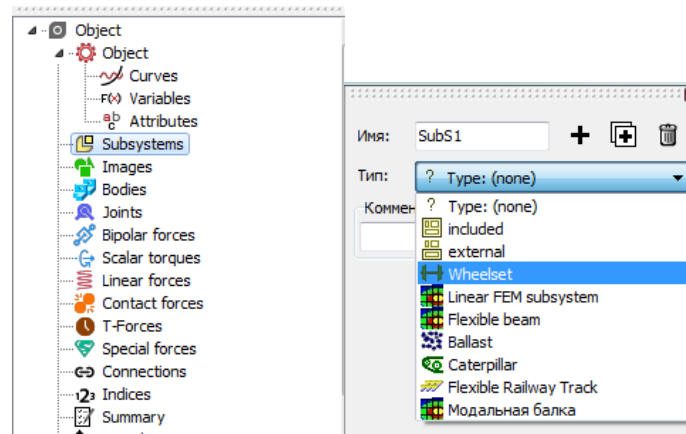
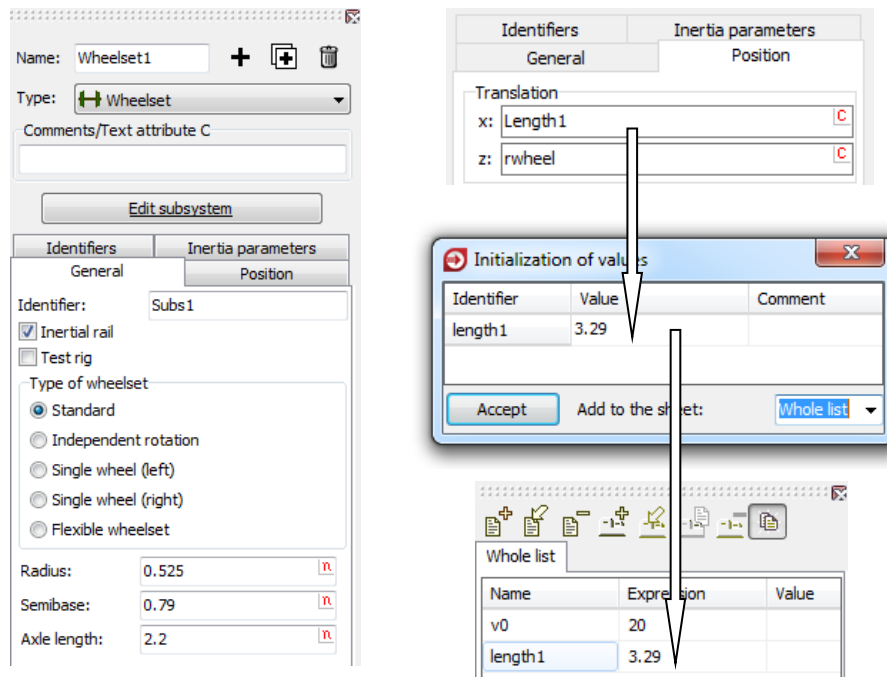

Figure 2.5. Adding a standard subsystem – “wheelset”
Figure 2.6. Wheelset parameters
1. Select Subsystems in the element tree (Figure 2.5, left) and add a subsystem by clicking the  button on the data inspector, rename it to **WheelSet1** and choose the type of the subsystem – **Wheelset** (Figure 2.5, right). Wheelset appears in the animation window and the data in inspector reflect its current geometrical and inertia parameters. Some of the wheelset parameters can be corrected right here, see Figure 2.6. If necessary, here you can change semi base and the running radius.